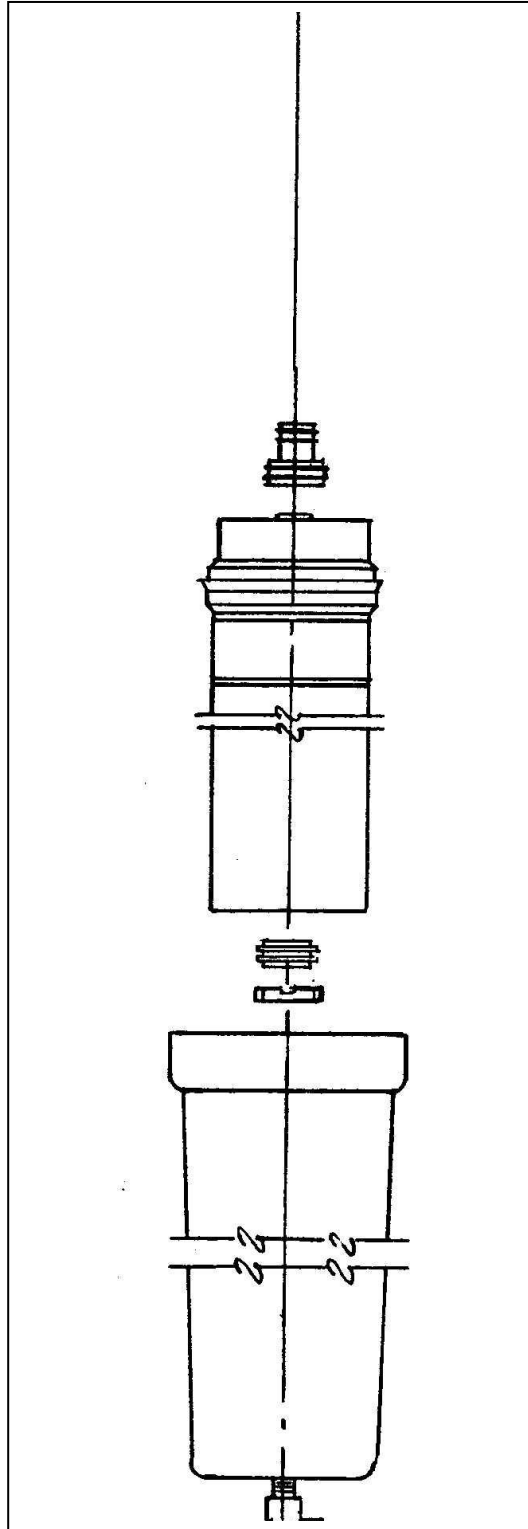

Figure 4
5. Center the lower spacer disk over the support post in the bottom of the bowl. **NOTE:** Orient the disk in the bowl so that the slots are upward. (See Figure 4).